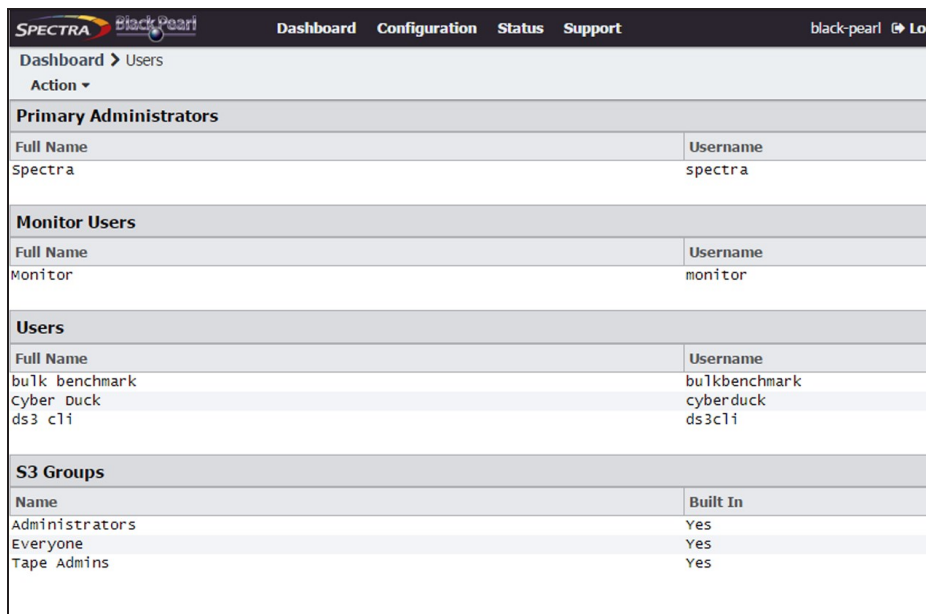

Figure 34 The Users screen.
1. From the menu bar, select **Configuration > Users**. The Users screen displays (see Figure 34 on page 86).